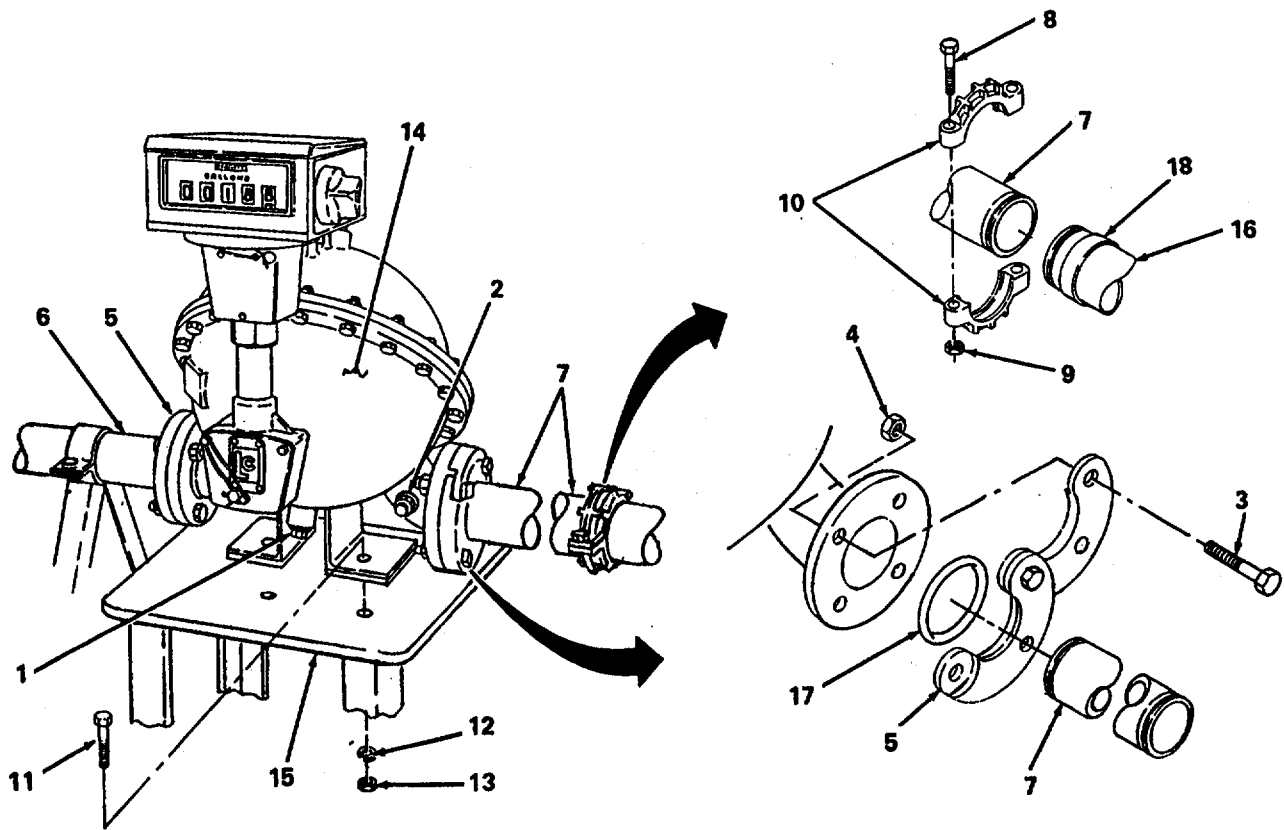

Figure 5-24. Flow Meter Replacement.
- (b) Remove weldment pipe plug (1, figure 5-24) and inlet elbow pipe plug (2), allow flow meter to drain, then reinstall pipe plugs.
- (2) Disconnect flow meter from cargo transfer piping.
- (a) Remove two screws (11), two lockwashers (12) and two nuts (13) securing flow meter body (14) to pedestal (15).
- (b) Slide flow meter body (14) clear and cover ends of pipes (6) and (16).
- (c) Cover flow meter inlet and outlet, and install pipe plugs (1) and (2) to keep foreign material out of flow meter.
- (d) Using two personnel, lift flow meter off of pedestal (15).
- (1) Position and install flow meter.
- (a) Lift flow meter onto pedestal (15, figure 5-24) and uncover ends of pipes (6) and (16).
- (b) Position hinged flanges (5) on grooved pipe (6) and pipe section (7) and insert one screw (3) through the mating holes of each flange to hold flanges in place on pipe ends.
- (c) Lubricate and install gaskets (17) in recesses in each hinged flange (5).
- (d) Remove covers from inlet and outlet of flow meter and align outlet flange with hinged flange on grooved pipe (6) and mounting holes with holes in pedestal (15).
- (e) Install, but do not tighten, remaining screws (3) and nuts (4) on outlet side of flow meter.
- (f) Lubricate and install coupling gasket (18) on pipe (16).
- (g) Position hinged flange on pipe section (7) against inlet flange of flow meter and install, but do not tighten, three screws (3) and three nuts (4).
- (h) Position coupling gasket (18) centered on the seam between the pipe grooves, install halves of coupling (10), and secure with two screws (8) and two nuts (9).
- (i) Install two screws (11), two lockwashers (12), and two nuts (13) securing flow meter body (14) to pedestal (15) and tighten.
- (j) Tighten three screws (3) and three nuts (4) securing each hinged flange to inlet and outlet flanges on flow meter,